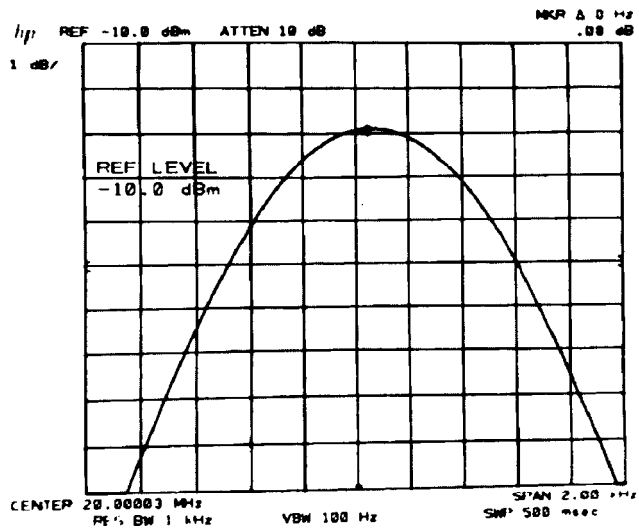

Figure 2-18. IF Gain Uncertainty Measurement
12. Set the analyzer **(REFERENCE LEVEL)**, **(VIDEO BW)**, and frequency synthesizer amplitude according to Table 2-12 settings. (Use the frequency synthesizer **(↓)** for 10 dB steps.) At each setting, note the MKR A amplitude displayed in the upper right corner of the analyzer display (deviation from the 0 dB reference setting) and record it in the table. See Figure 2-18.